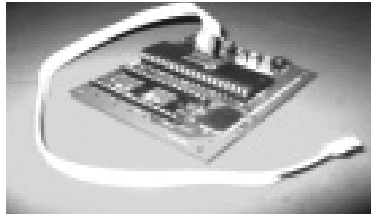

figure 1
1) Software Update PCB as shown in figure 1.